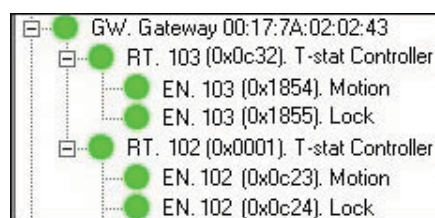

Figure C16
13. See the final **Online Network** tree in Figure C16.
When steps 1-4 below have been performed, the **Online Network** tree in SysMon will typically look as in the example in Figure C16: